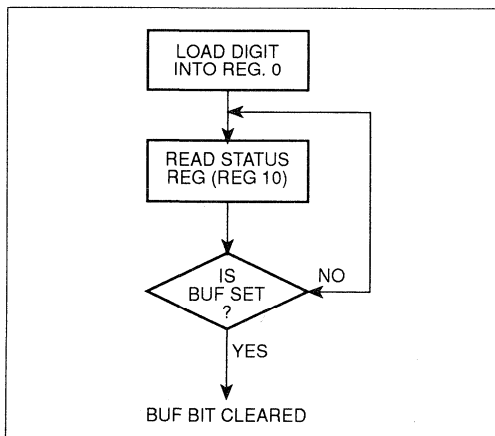

Figure 6: Digit loading handshaking procedure
1. While the MA525 is accepting a digit from the temporary digit buffer to the dial store. A handshaking procedure, as shown in Fig. 6, can be used to load digits from the digit buffer to the dial store. Such handshaking will ensure correct loading of the digits whether or not the MA525 oscillator is running at the time of first loading. Providing that the oscillator is running (see Oscillator Circuit section) handshaking need not be used so long as the buffer timing constraints are observed.